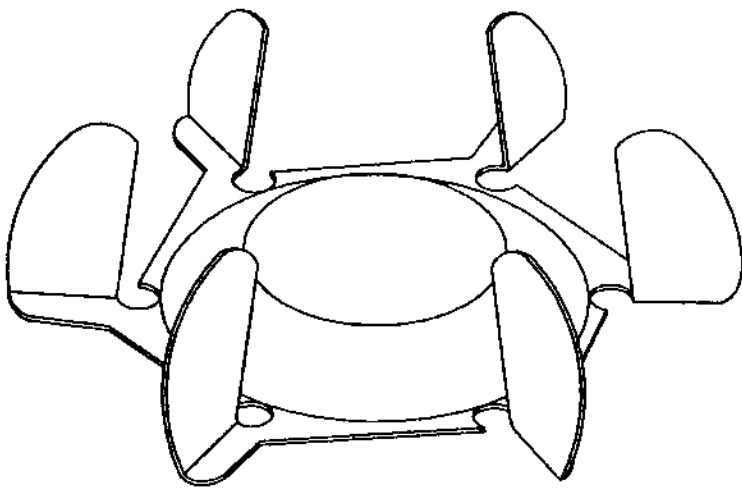
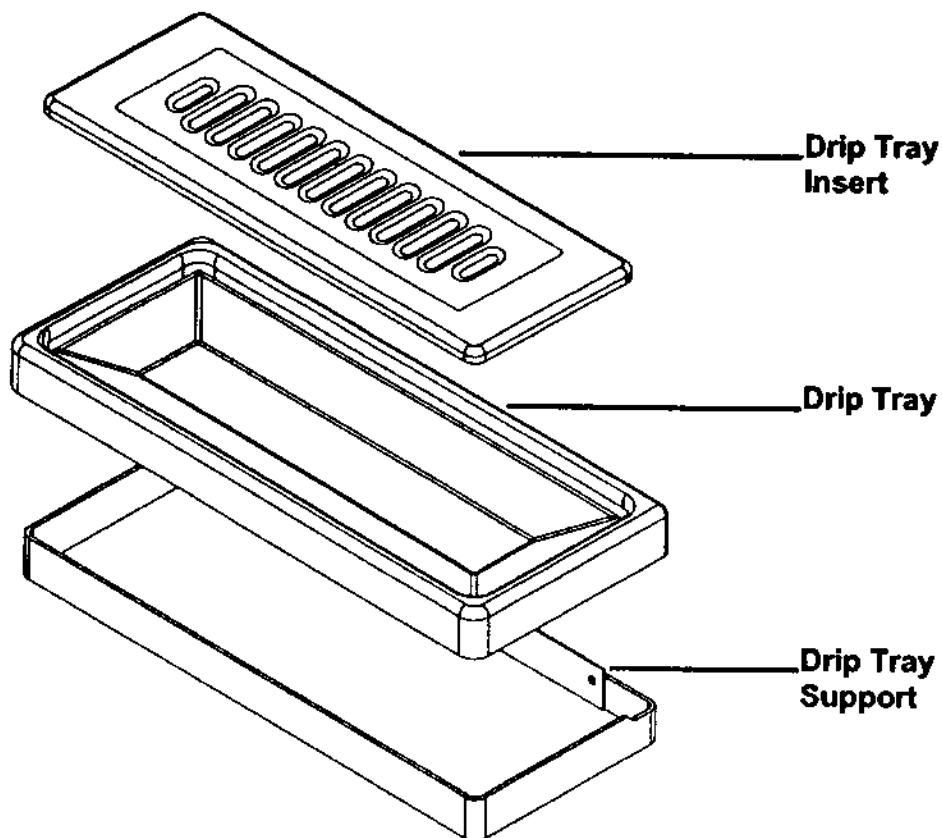

Fig. 12
Fig. 13
9. Remove the mix pan lids, mix pan agitators (Fig. 12), drip tray and drip tray insert (Fig. 13).